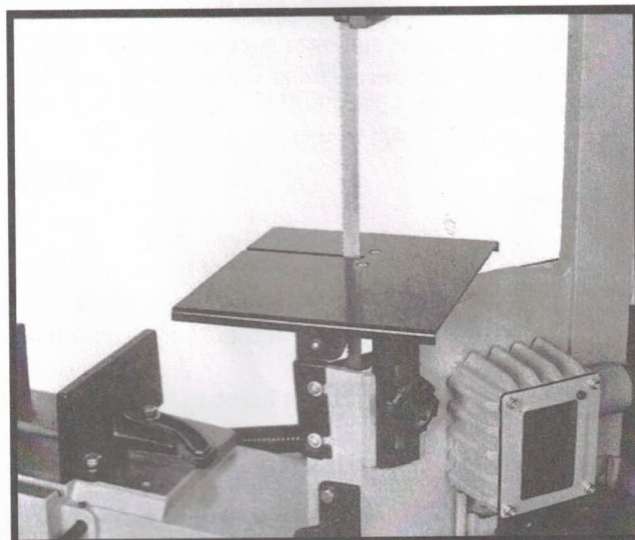

Fig. 4
4. Guide blade through slot in table and fasten with two screws. See Fig. 4.